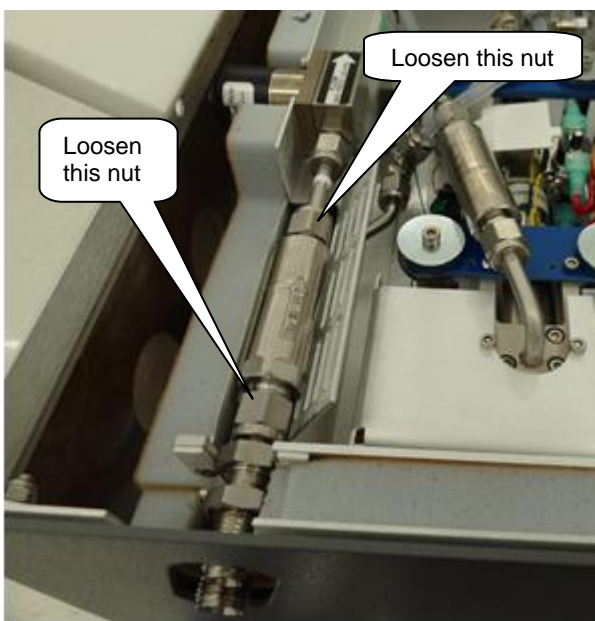

Fig 3: Loosen 2 nuts to remove the filter
- Using the 9/16" and 11/16" wrenches, loosen two nuts that are connecting the filter to the analyzer (Fig 3, 4, 5).